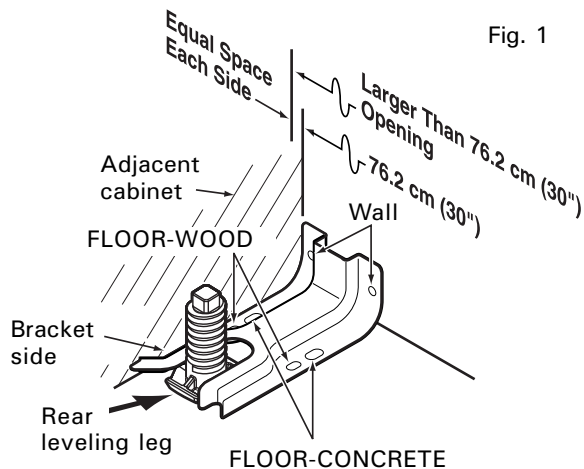

Fig. 1
- Place the bracket as shown in Fig. 1.
- Locate the centers of the 4 holes identified in Fig. 1 as Floor-Wood and Wall.
- Locate the center of the 4 holes identified in Fig. 1 as Floor-Concrete and Wall. Drill the recommended size holes in each.